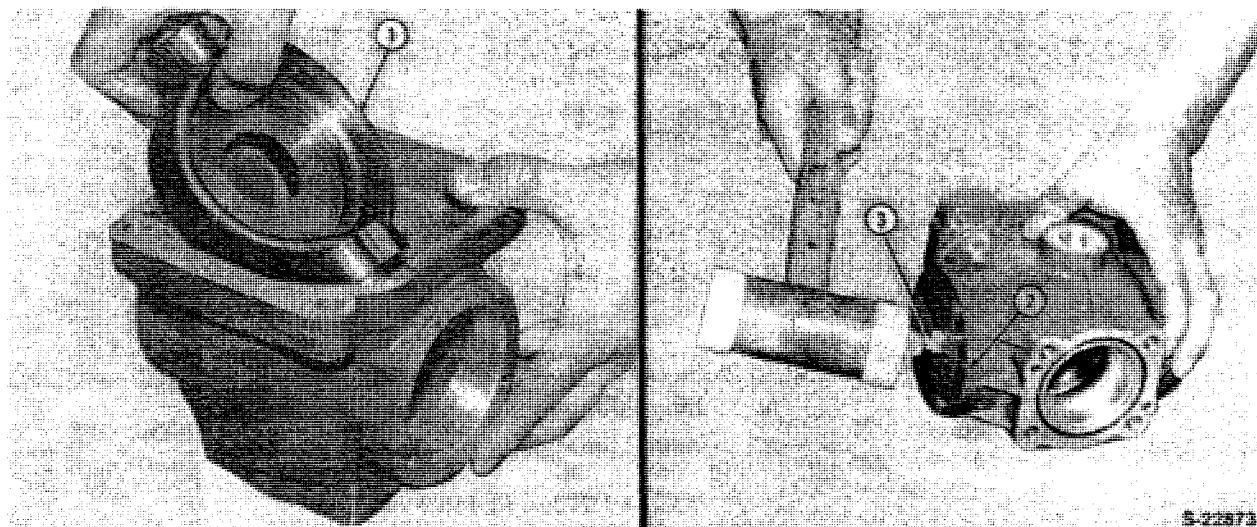

Figure 53
1. Scribe alignment marks on the swash plate covers. Remove the cover screws from each side, Figure 53.
4. Remove the variable swash plate, Figure 53.